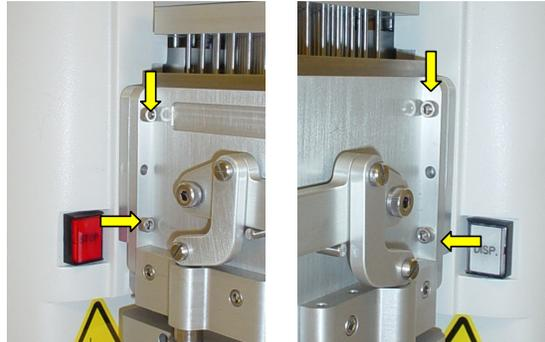

Figure 5-4: Left and right views of the 4 socket head screws to be removed on both sides of the Hydra DT syringe head
3. Remove the 4 socket-head screws on the lower syringe head assembly with a 9/64-inch Allen wrench. See Figure 5-4 for socket screw positions.